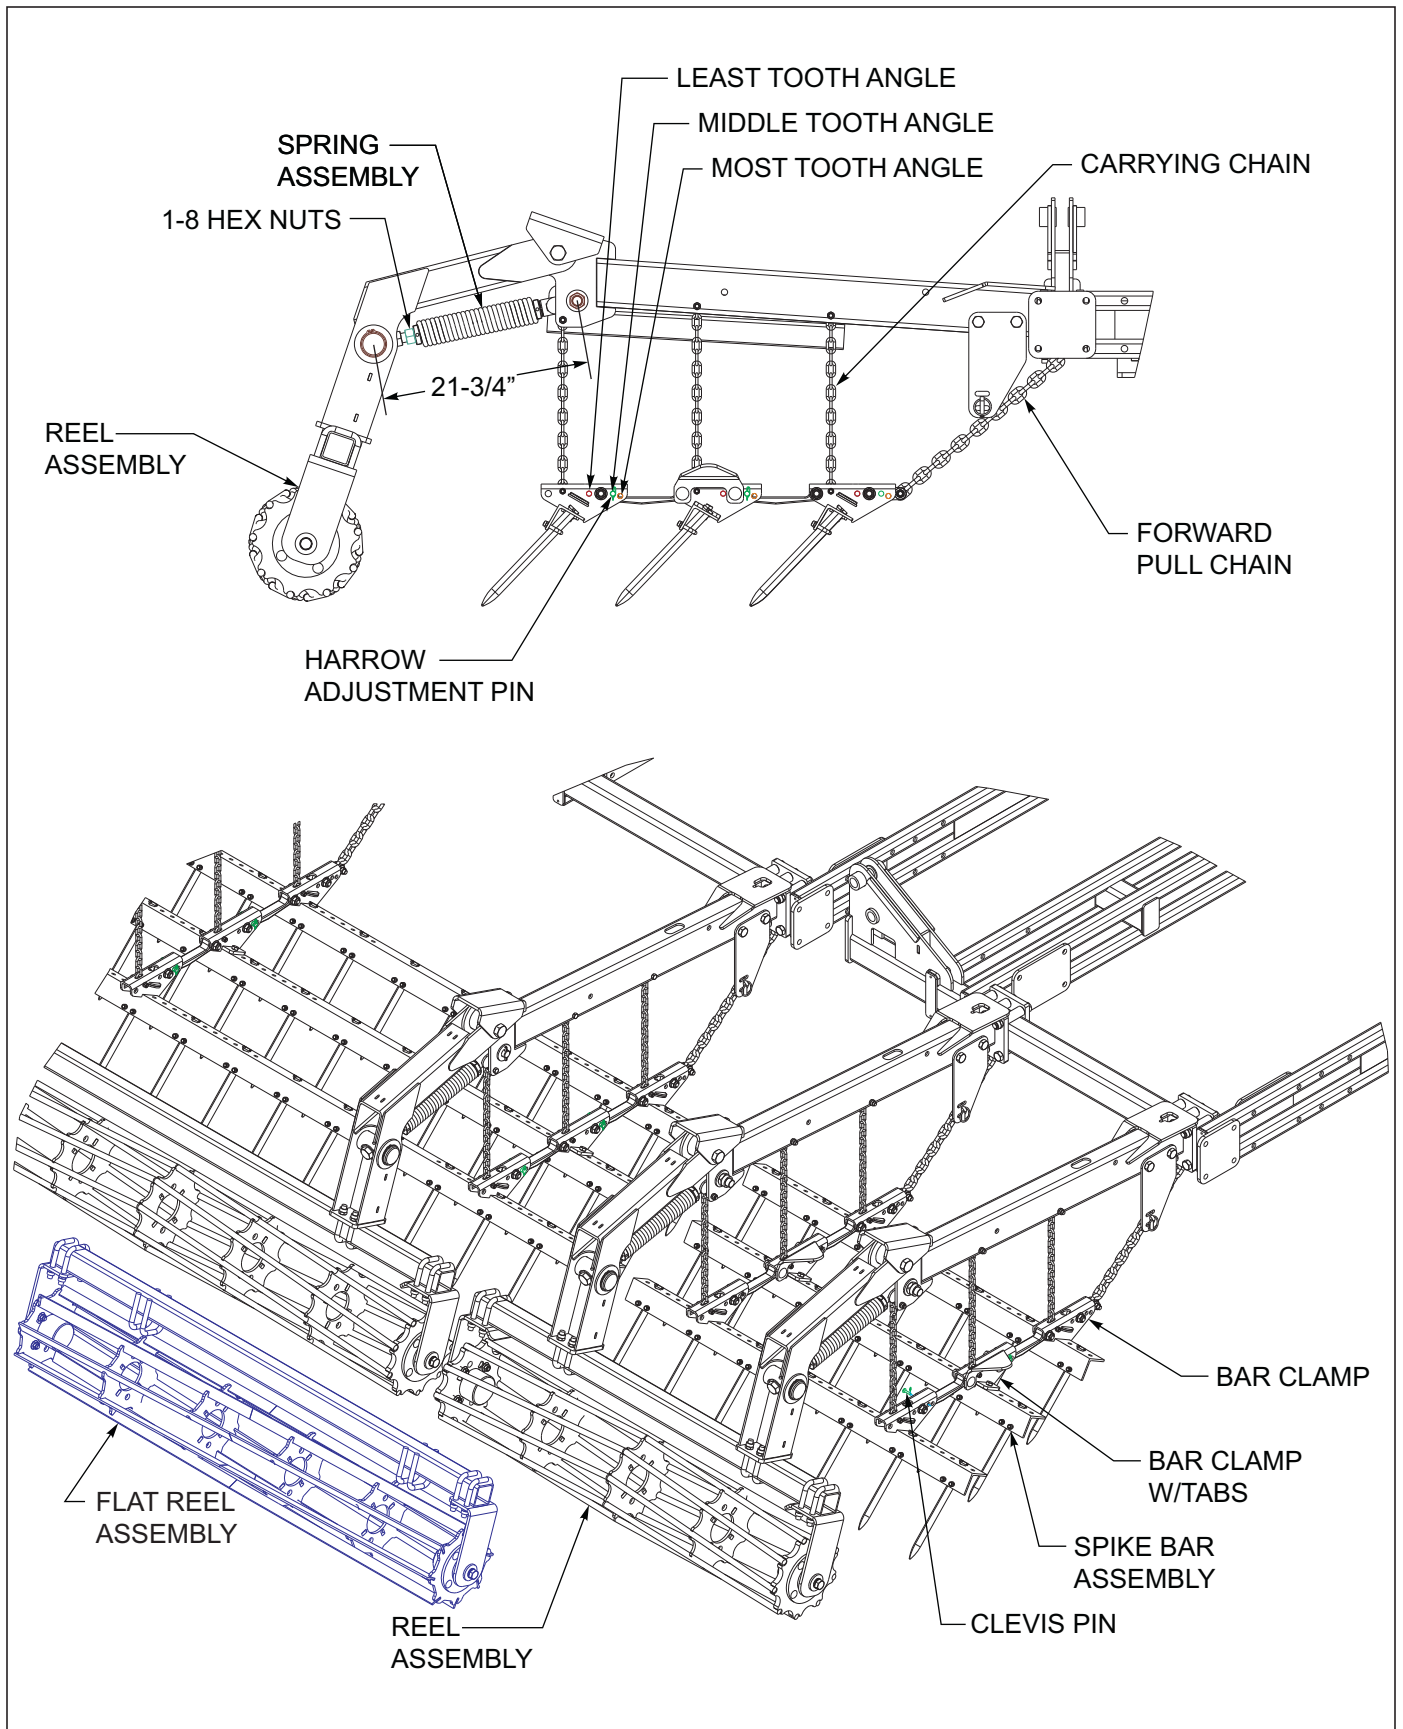

Figure 4-17: 3 Row Spike and Reel Adjustments
3. For the most aggressive spike tooth action, install the harrow adjustment pin in the forward mounting hole over each bar clamp for each spike bar See Figure 4-17. This will position the spike teeth to be in the most vertical position. In wetter or conditions with some residue, lower the spike tooth angle by positioning the harrow adjustment pin in the middle or rear hole. This will allow the teeth to lay flatter and shed more residue.